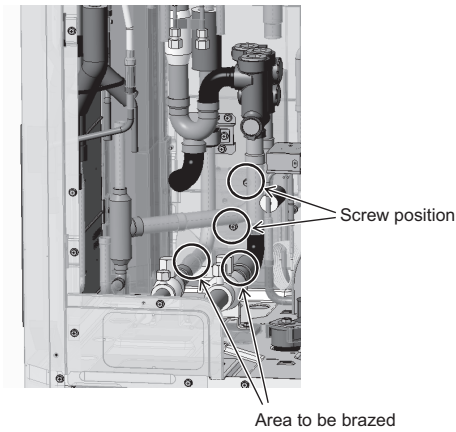

Figure 18
- (18) Re-place the check valve block assembly that was replaced in step (15). (2 areas to be brazed. 2 screws. See Figure 18.)